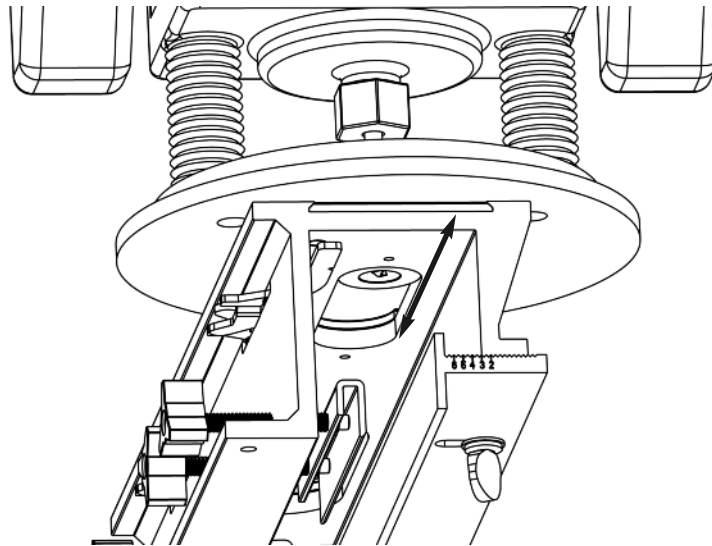

Fig. 25
1. Before turning on the router, place the *Guide Bushing* in the end of the mortise template and slide it through the template to be sure it moves freely. (Fig. 25)